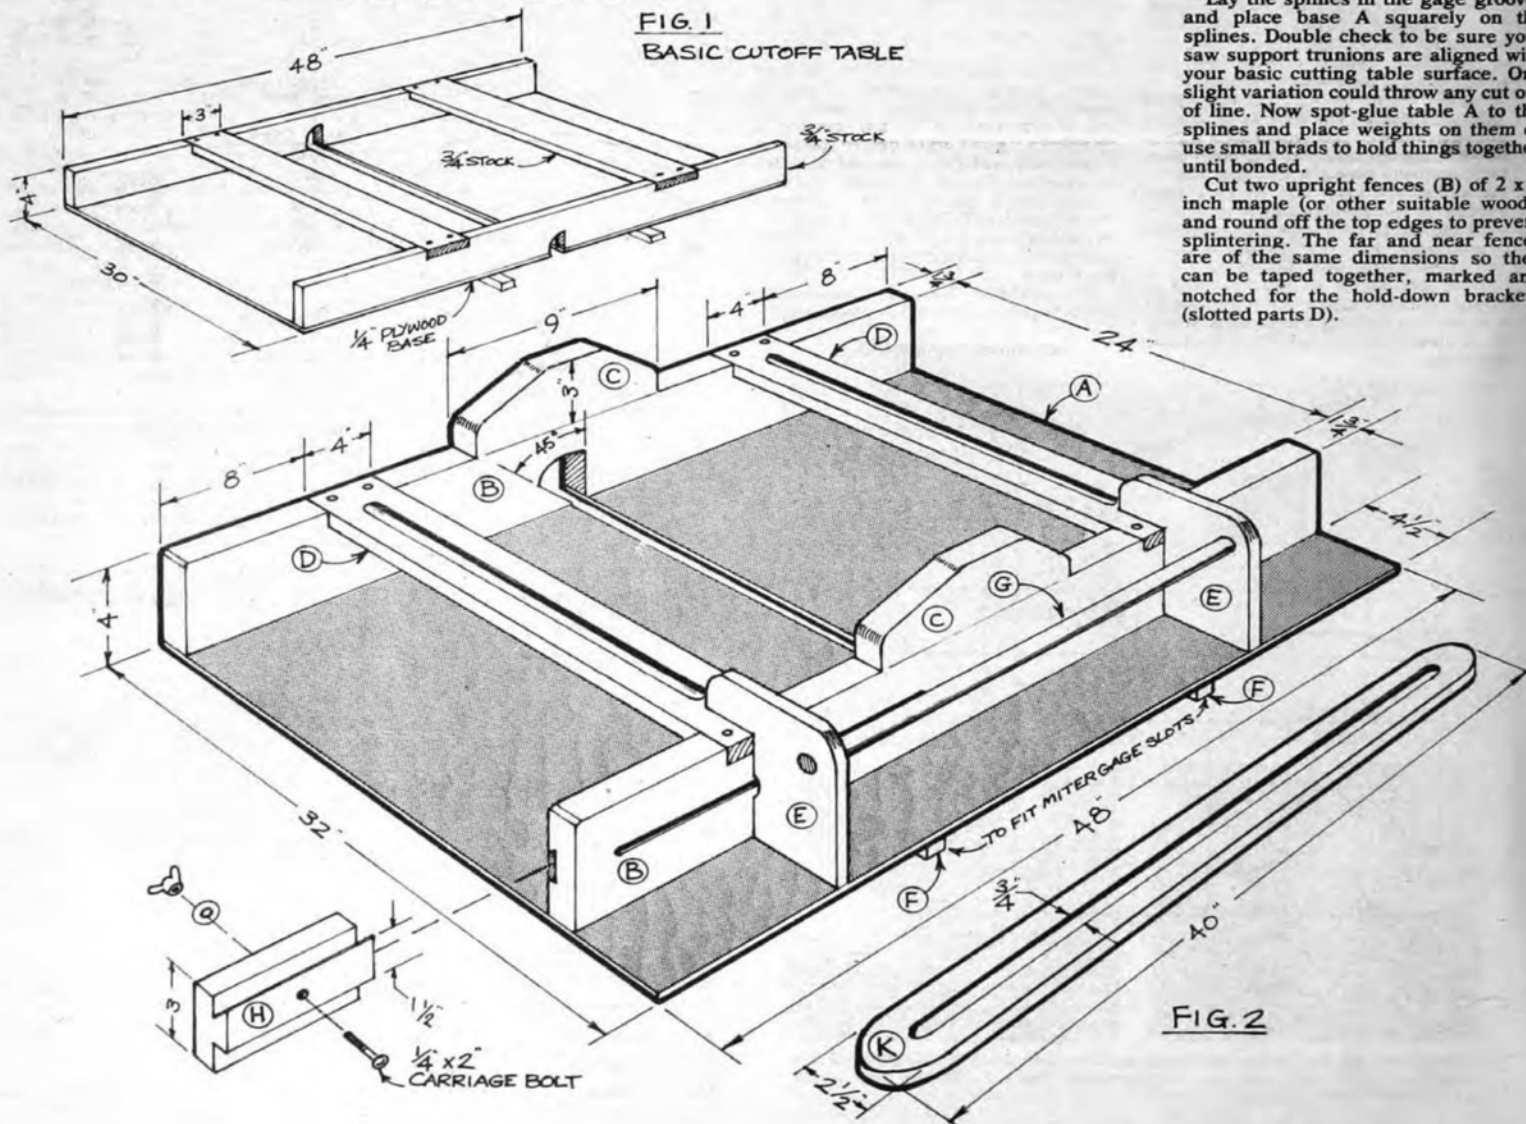

FIG. 2
Note that part E nearest the viewer in Fig. 2 has a slight cove cut out to accommodate the adjusting bolt of block H. Glue and screw parts E in position as shown.
Make a long link (K) from $\frac{1}{4}$ " stock as shown in Fig. 2. This will enable you to fasten a moveable centering jig anywhere on the table and at any angle to the blade for some surprising cuts. Round the ends and cut slot with saber saw. File and sand smooth.